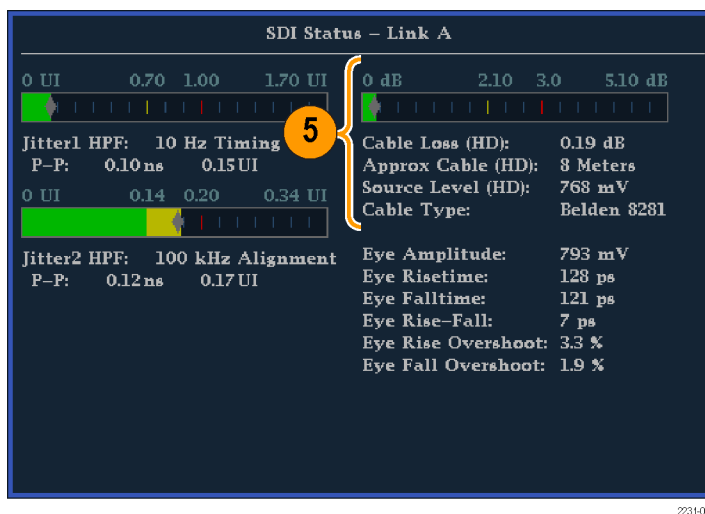

Figure 57: Cable loss information in the SDI Status display
5. Use the Cable Loss thermometer and readouts to monitor the cable loss. (See Figure 57.)